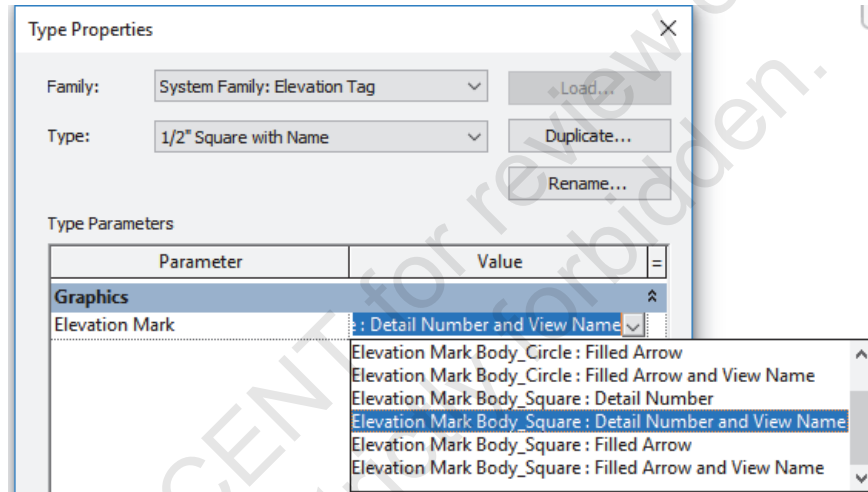

Figure 1–73
7. In the *Elevation Mark* drop-down list, select **Elevation Mark Body_Square: Detail Number and View Name**, as shown in Figure 1–73.
8. Click **OK**. The Elevation Tag updates as shown in Figure 1–74.